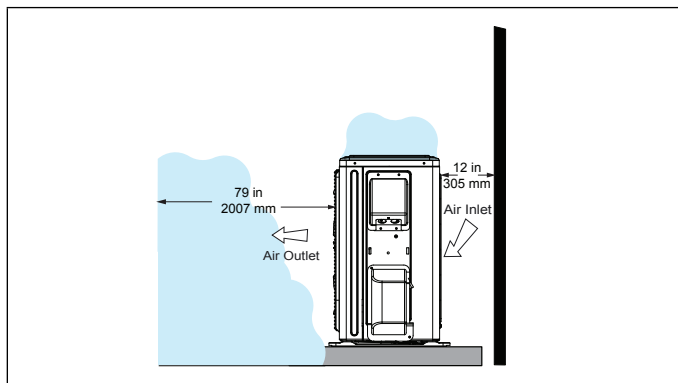

Figure 21. Outdoor Unit Air Flow Obstructed by Snow
- In heavy snow areas, do not place the unit where drifting will occur as illustrated in “Figure 21. Outdoor Unit Air Flow Obstructed by Snow” on page 13